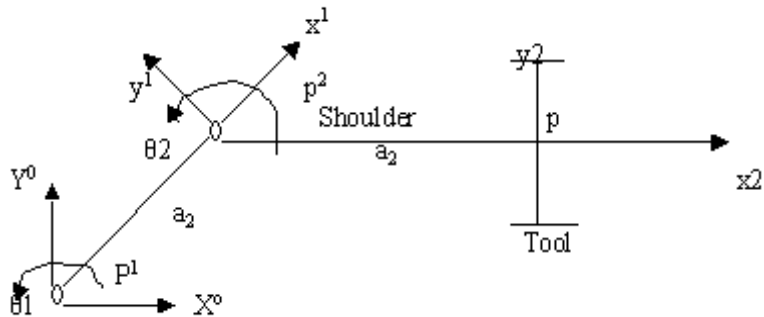

Figure 3:
5. Find the manipulator jacobian matrix $J(q)$ of the two-axis planer articulated robot shown in figure 3. [16]